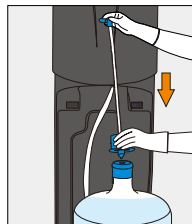

Figure 40
19. Without touching the tube, install the Spike Cap (with the end of the tube in the Spike Cap) (Figure 40)